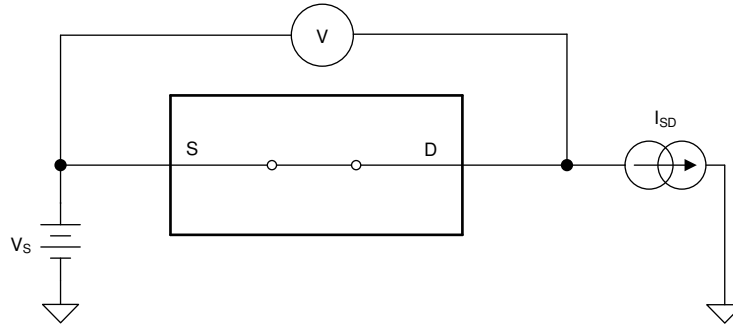

Figure 7-1. On-Resistance Measurement Setup
The on-resistance of a device is the ohmic resistance between the source (S) and drain (D) pins of the device. The on-resistance varies with input voltage and supply voltage. The symbol  $R_{ON}$  is used to denote on-resistance. The measurement setup used to measure  $R_{ON}$  is shown in Figure 7-1. Voltage (V) and current ( $I_{SD}$ ) are measured using this setup, and  $R_{ON}$  is computed with  $R_{ON} = V / I_{SD}$ :